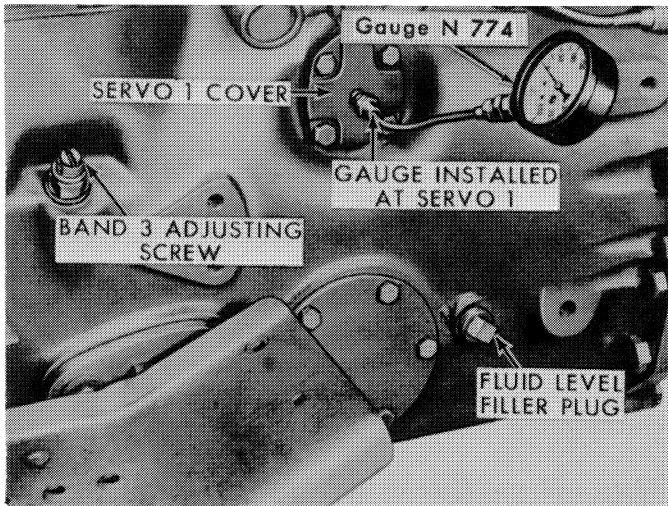

Figure 25
2. Remove the hex head plugs from Servos 1, 2, and 3, and install the pressure gauges. See Figures 25 and 26.